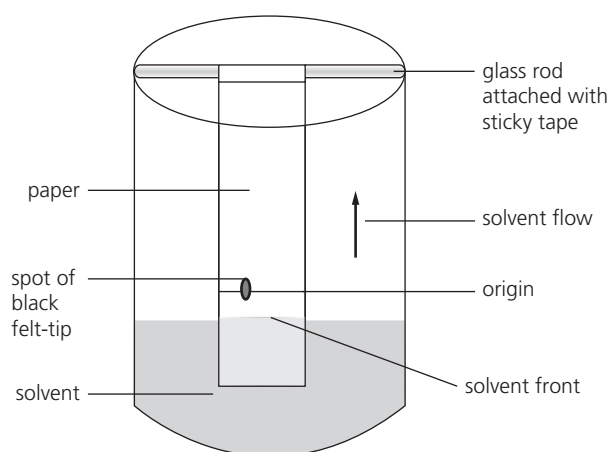

Figure 2
- 3 Put 0.5 cm depth of an equal mixture of water and ethanol in the bottom of a  $250 \text{ cm}^3$  beaker and hang the chromatography paper as shown in Figure 2. Cover the apparatus with an inverted plastic bag, or a watch glass.